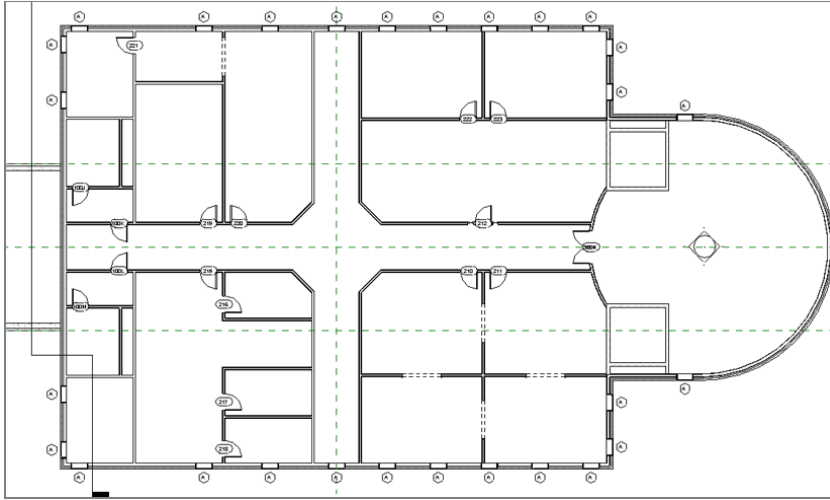

FIGURE 4.57: Level 3: This floor plan was mostly copied from Level 1, with the exception of the northwest corner.
9. Go to Level 3, and create a floor plan similar to Figure 4.57. You can do this by using Paste ➤ Aligned To Selected Levels from Level 1. The floor plans are identical, other than the wall configuration in the northwest corner.